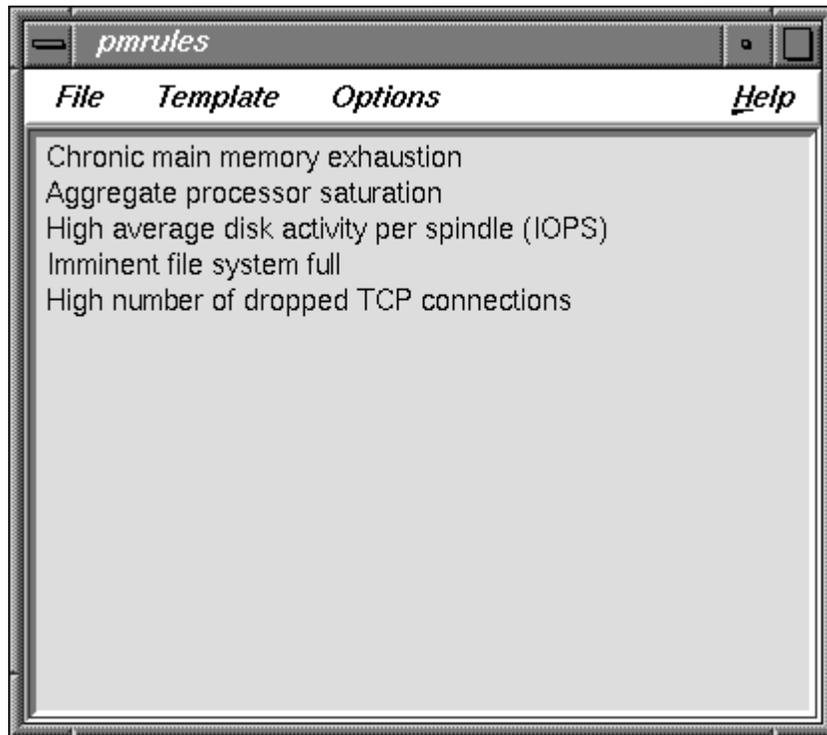

Figure 32. pmrules Main Dialog after Template Selection
4. Select the desired templates, click OK, and return to the pmrules main window, which appears similar to the one shown in Figure 32.